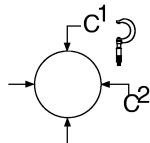

Fig. B-2 Axle Shaft and Tube Inspection
2. Check journal diameter (A, B, C) (Ref Fig. B-2 on page B-2).
- A. Inspect splines for obvious fretting, twisting, or damage of any kind (Ref Fig. B-2 on page B-2).